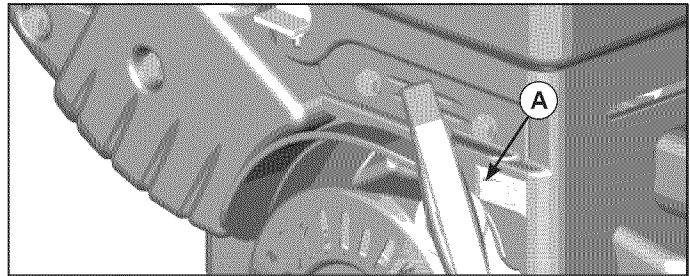

Figure 18. Engine Start/Stop
3. Push the stop switch (A, Figure 18), if equipped, to the ON position.
1. Move the stop switch (A, Figure 18), if equipped, to the STOP position.